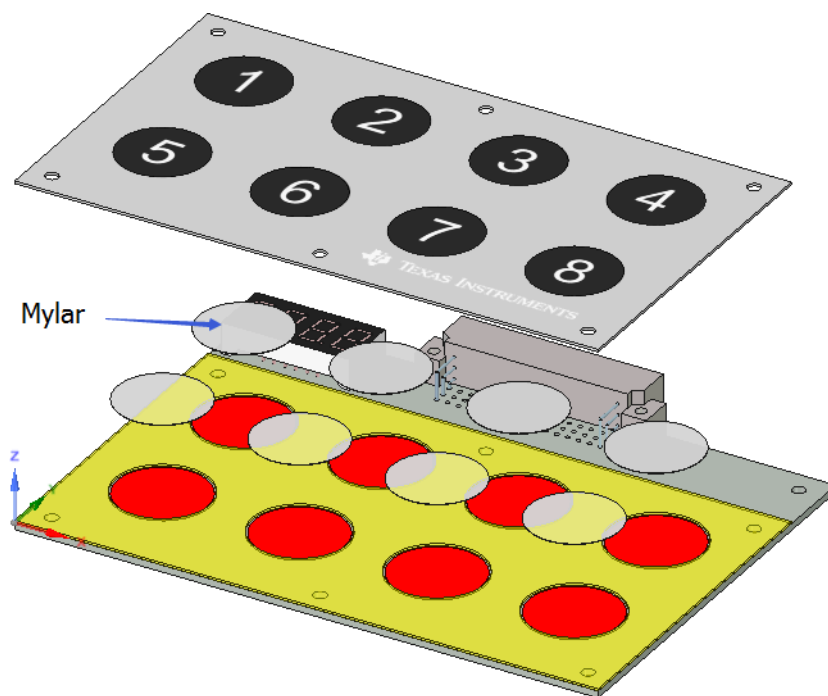

Figure 37. Mylar to Protect Electrodes
- Add a Mylar® sheet between electrodes and conductive overlay improves the ESD immunity, as shown in Figure 37.